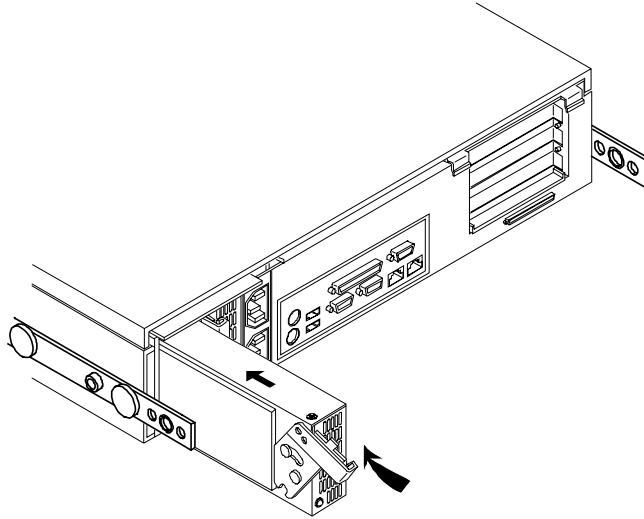

Figure 9-5. Installing a Power Supply Module
- Slide the module into the power bay and press the release lever in until it clicks into place. See Figure 9-5.